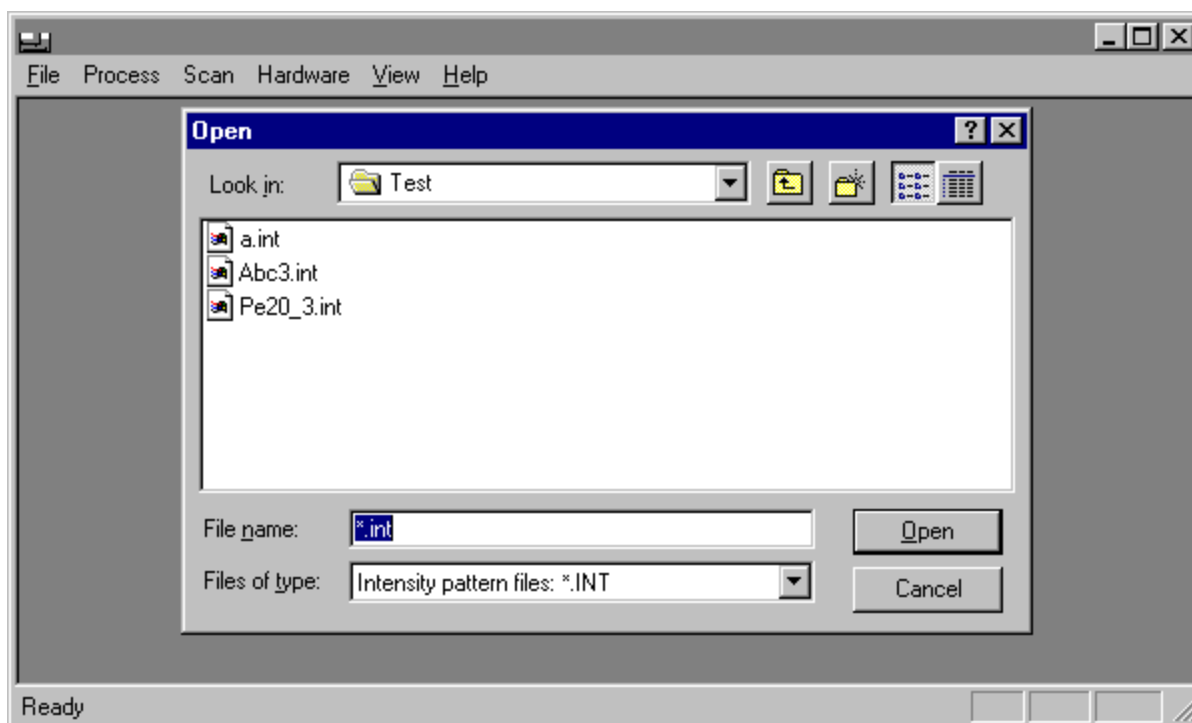

Figure 4.1 Opening the intensity pattern data file.
4.1.1 The intensity data file you saved in paragraph 3.21.1 should be listed in the Open dialog box. Double click on this file (A . INT). See Figure 4.1.